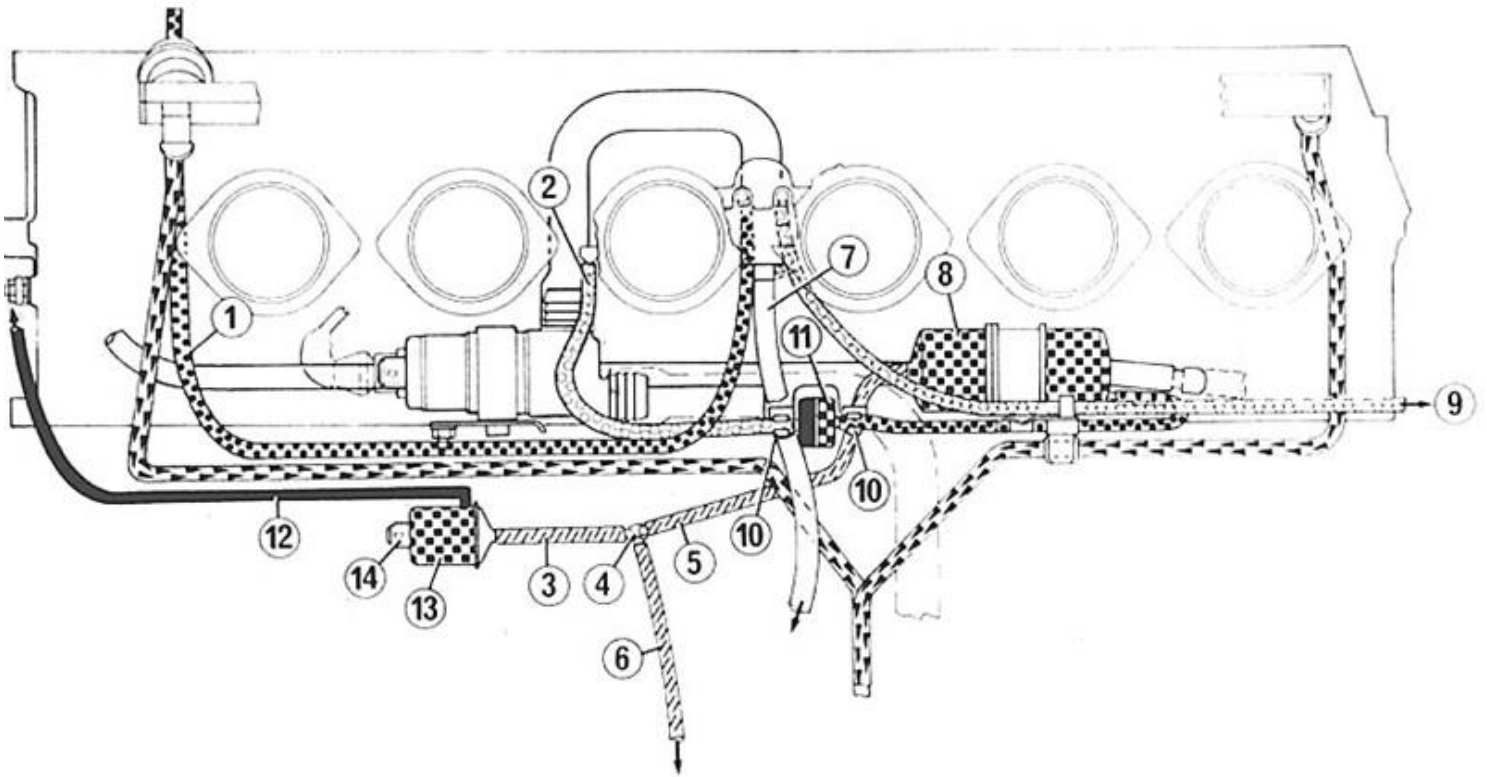

Figure 23
21. Disconnect the vacuum feed line from the throttle bodies and from the vacuum servo for the secondary air injection. Line #2 and #3 in Figure 23 (S38B36 routing shown).